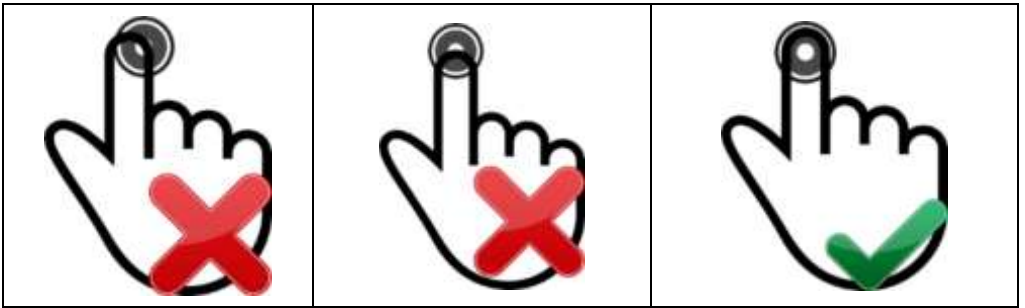

Figure 1: Touch Alerts
- Information about the touch type is given in figure 1 above.